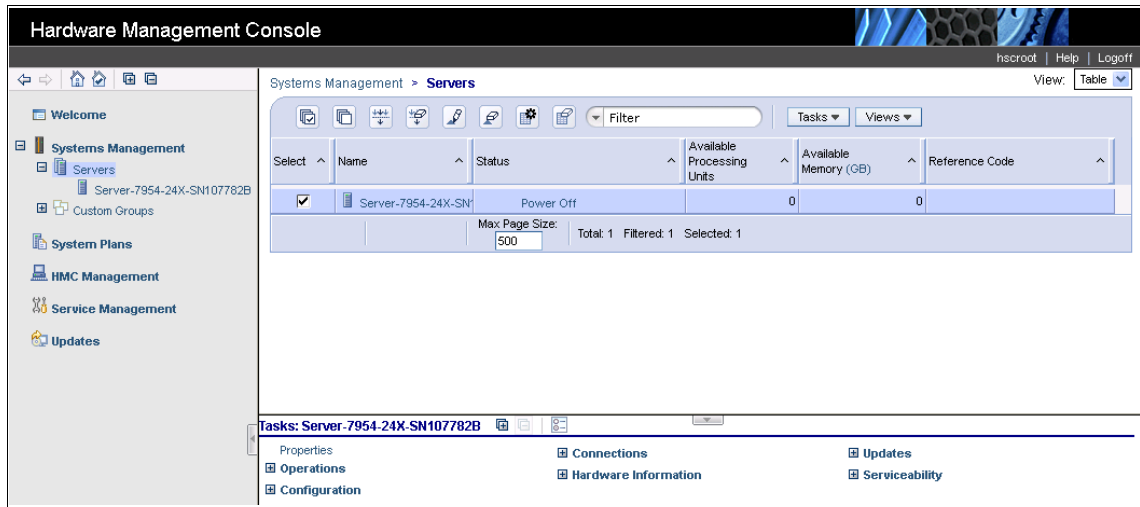

Figure 7-102 Work pane that is updated with new managed system
5. The work pane is updated with the added server, as shown in Figure 7-102.